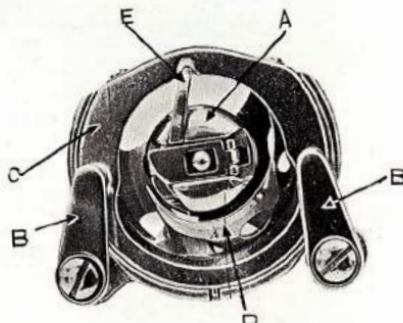

Fig. 37
CLEANING AND OILING THE SHUTTLE (See Fig. 37 and 38)
2. Remove bobbin case (A, Fig. 37).
3. Turn the two shuttle race cover clamps (B) outward and remove the shuttle race cover (C) and shuttle body (D).